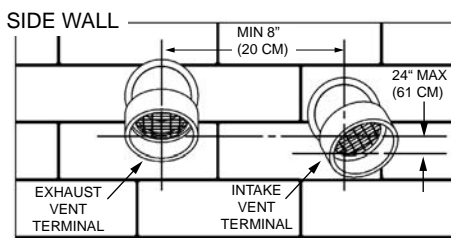

Figure 29. Sidewall Vent Clearances*
Important: When terminating the vent on a side wall, the following specifications pertaining to terminal location must be followed. See *Figure 29*.
4. To avoid exhaust recirculation, the air intake terminal may be rotated away from the exhaust vent terminal. See *Figure 29*.